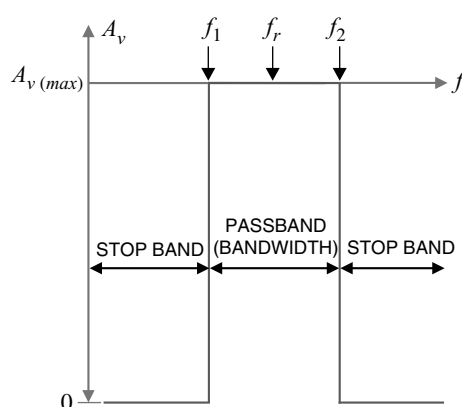

Fig. 13.10
**Solution.** Fig. 13.10 shows the frequency response of an ideal tuned amplifier. The ideal tuned amplifier has zero gain for all frequencies from 0 Hz upto the lower cut-off frequency